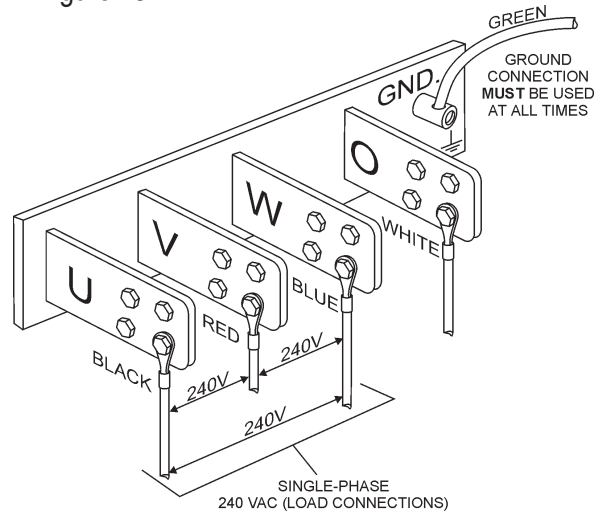

Figure 23. UVWO Terminal Lugs 1Ø-240V Connections
3. Turn the voltage regulator knob (Figure 23) clockwise to increase voltage output, turn counterclockwise to decrease voltage output. Use voltage regulator adjustment knob whenever fine tuning of the output voltage is required
2. Connect the load wires to the UVWO terminals as shown in Figure 23.